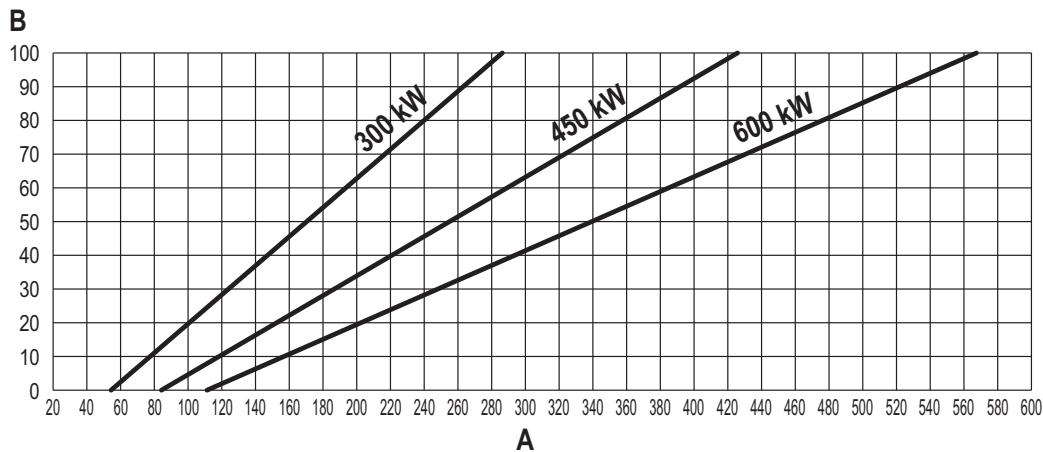

fig. 86
- Press the **contextual buttons 1 and 2** to increase or decrease the heating capacity (minimum = 00 - maximum = 100). See the diagram "Heating Capacity Adjustment" (fig. 86).